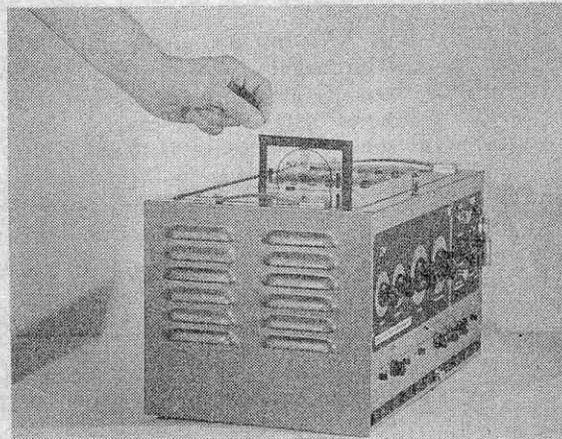

Figure 3—Inserting slide in TV Analyst
3. Insert test pattern slide into opening on top of cabinet and engage in slide track. Push slide all the way in. See Fig. 3. When viewing the slide from the left side of the instrument, the word "FRONT" should read correctly as it is being dropped into the slot.